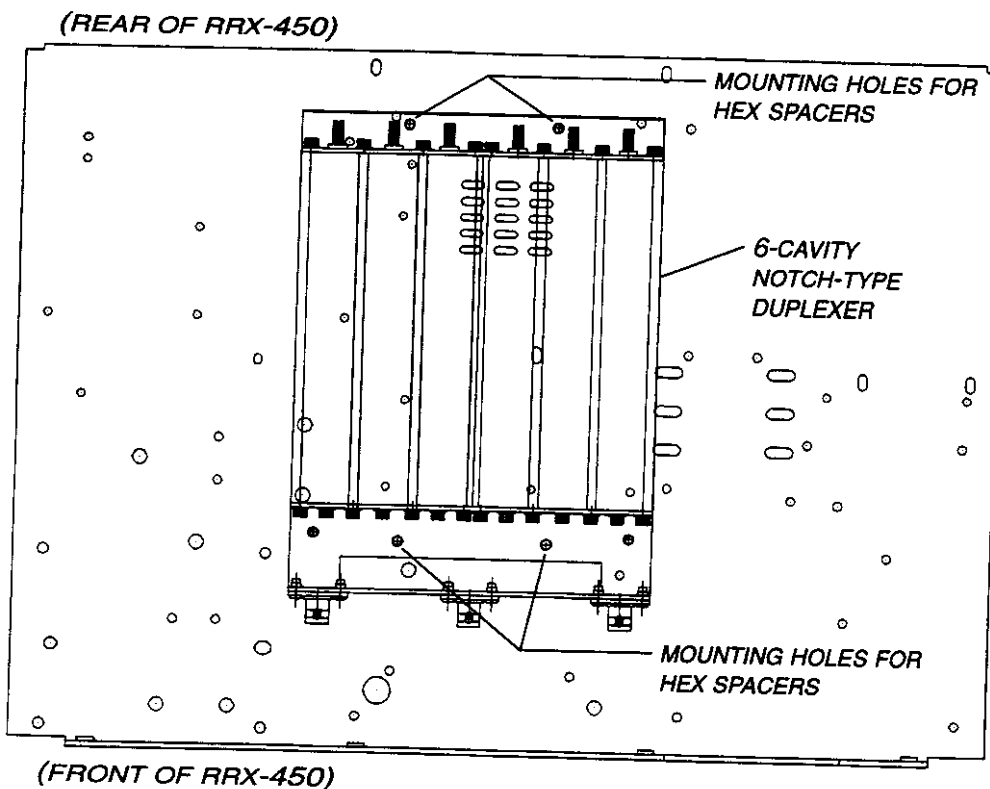

Figure 1—Six Cavity Duplexer Installation
3. Mount the hex spacers to the Repeater bottom panel as shown in Figure 1, then mount the duplexer on the spacers.